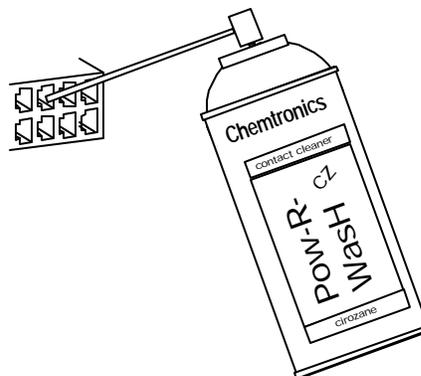

Figure 1
3. **Clean** each terminal using Chemtronics? contact cleaner "Pow-R-Wash CZ" as shown in Figure 1.